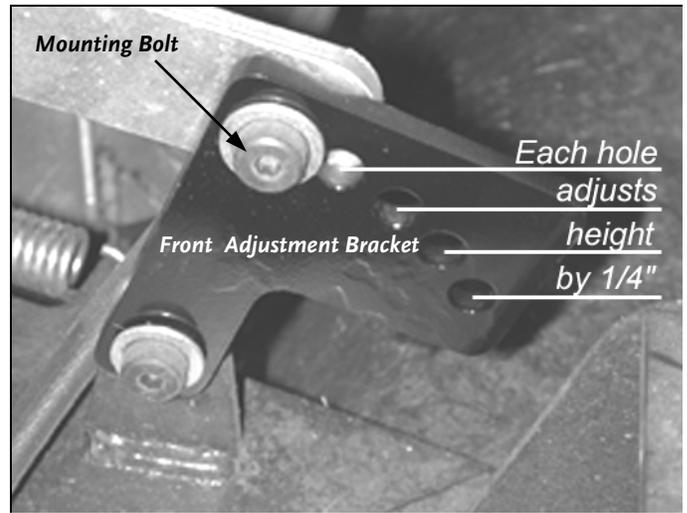

Figure 26
2. There is a Front Adjustment Bracket on each side of the Deck. Using a 3/16" Hex Key Wrench, adjust the Deck on each side as needed by moving the Mounting Bolt to a different Hole in the Front Bracket (**Figure 26**). Each Hole in the Front Bracket will change the Deck height on that side by 1/4".